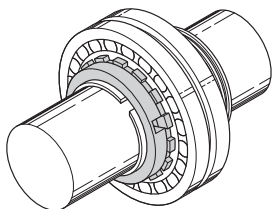

Fig. 20-10 Locknut and lockwasher.
6. Remove locknut and mount lockwasher on adapter sleeve with the inner prong of the lockwasher toward the face of the bearing and located in the slot of the adapter sleeve. Replace and re-tighten the locknut with the spanner wrench. Hit the spanner wrench one time with the hammer to seat the locknut firmly. Check to make certain that clearance has not changed (Fig. 20-10).